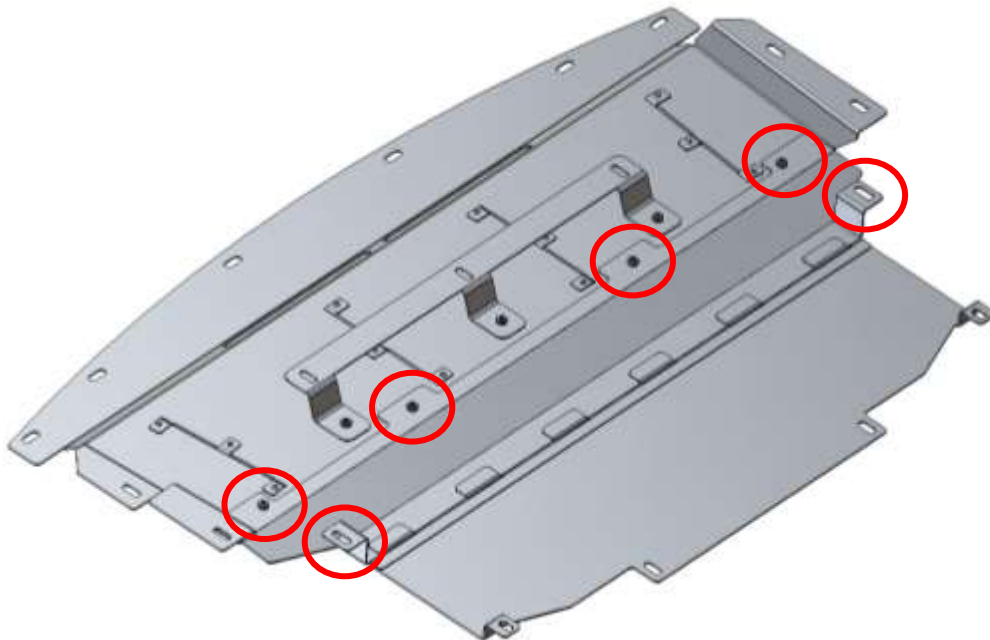

Figure 6
9. Locate the Middle Panel and (6) six M6 SEMS Screws. Position the Middle Panel **ON TOP** of the Main Section and loosely secure with the M6 SEMS Screws. *Figure 6.*